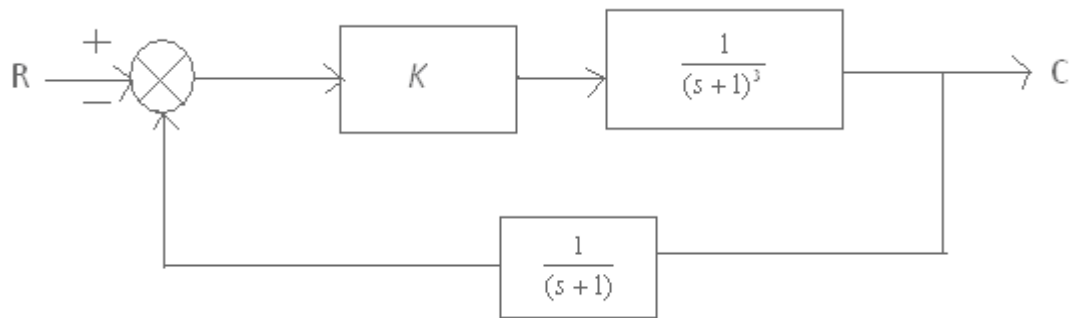

Figure 5:
3. For the control system in the figure 5: